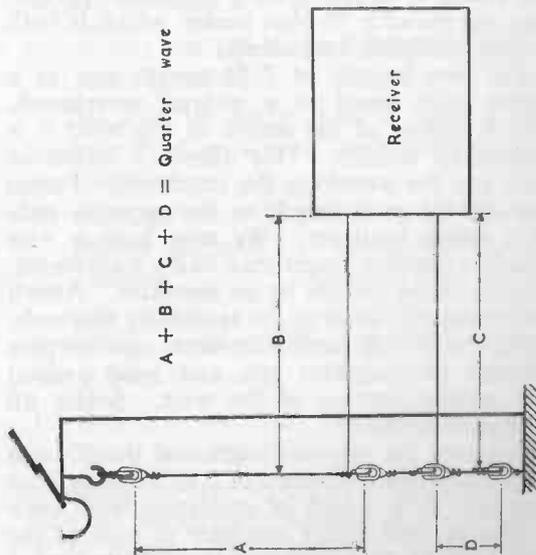

Fig. 18.4 Vertical quarter wave aerial.
#### (4) VERTICAL QUARTER WAVE AERIAL (see Fig. 18-4)
or in the ground. The maximum length of wire which may be used in this case is determined by the height of the building. One of the most practical ways of using this aerial is to make the sum of the four dimensions shown in Fig. 18-4 equal to half a wavelength of the lowest band it is desired to receive.